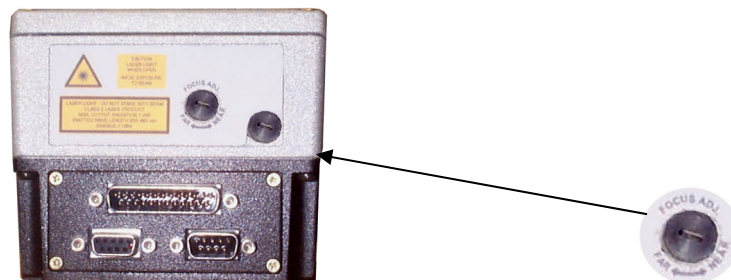

Figure 96 - Focus Adjustment Screw
The adjustment can be simply made through an external screw placed on the back of the optic HEAD and protected by a cap (Figure 96). The screw may be rotated either clockwise or counterclockwise in order to move the scanner internal lenses. In particular, a clockwise rotation causes a farther focus from the scanner, while a counterclockwise rotation causes a nearer focus to the scanner.
- 1) Remove the regulation screw protecting cap (see Figure 96) positioned on the back of the optic Head;